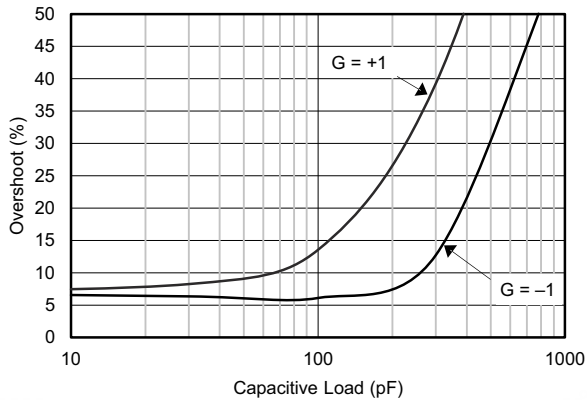

图 5-15. Small-Signal Overshoot vs Load Capacitance
- Updated Figure 5-15, *Small-Signal Overshoot vs Load Capacitance* 9